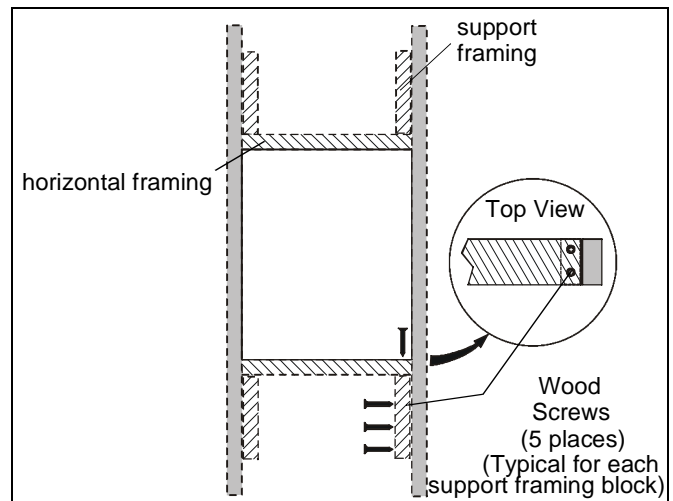

Figure 2
2. Using three #10 x 2-1/2" countersunk wood screws (not provided), attach support framing to the studs (See Figure 2)
- Attach horizontal framing to each support block with two #10 x 2-1/2" countersunk wood screws (not provided). (See Figure 2)